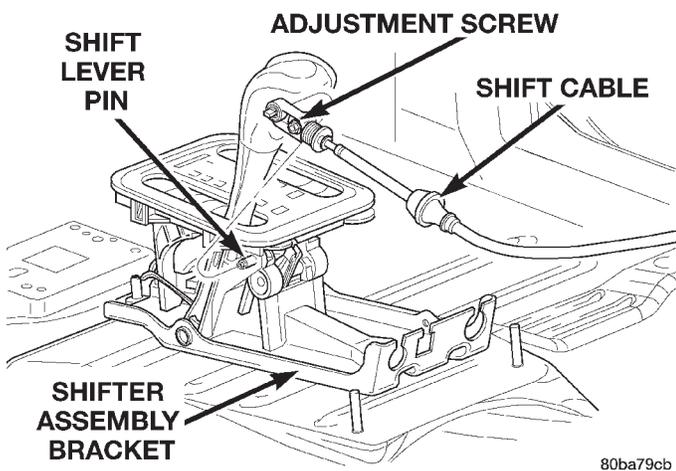

Fig. 33 Transmission Shift Cable at Shifter
- (7) Disconnect the shift cable from the shifter assembly (Fig. 33).